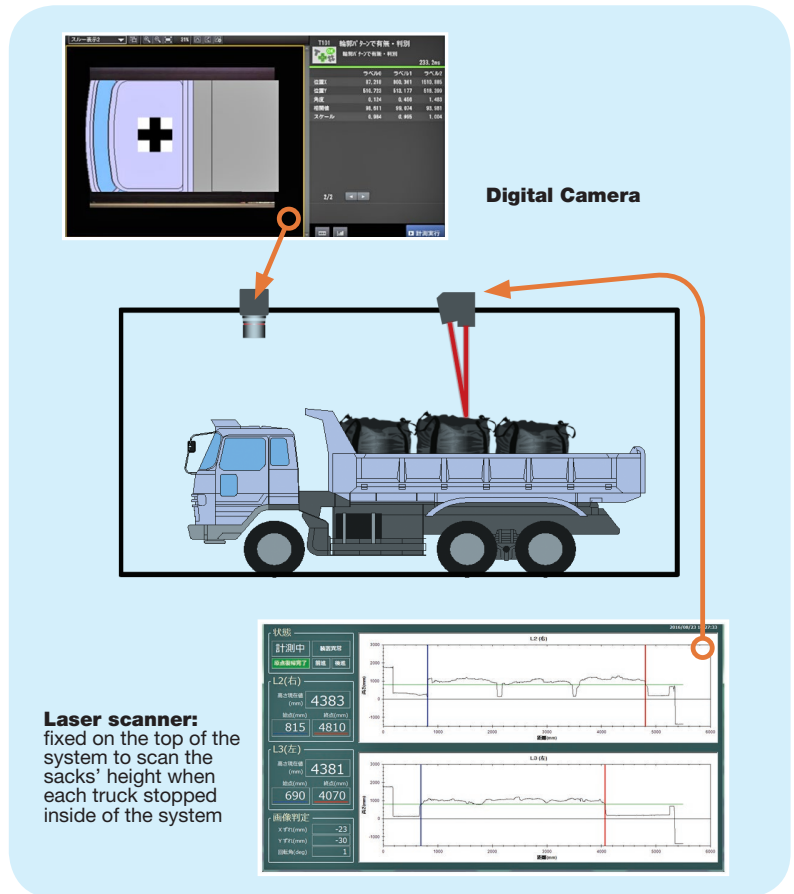

Fig. 2: Sensor system is composed by a digital camera and a laser scanner which are able to position each sack on the truck
- A sensor on top of Truckscan gave the position and height of the sacks (Fig. 2).